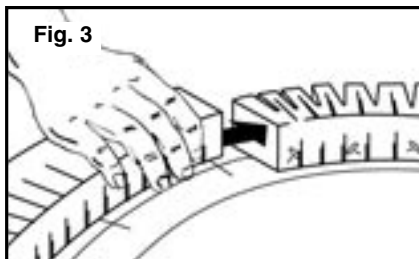
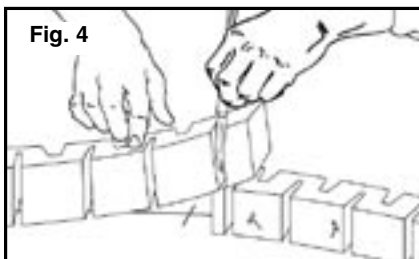

Fig. 3
Fig. 4
- B. Pin Risers to the base with Foam Nails every 4" to 6". Make sure the ends of each Riser butt together (Fig. 3). *Note: Cut the end of the last Riser with hobby knife so Riser ends fit snugly* (Fig. 4). **Always save foam scraps.**